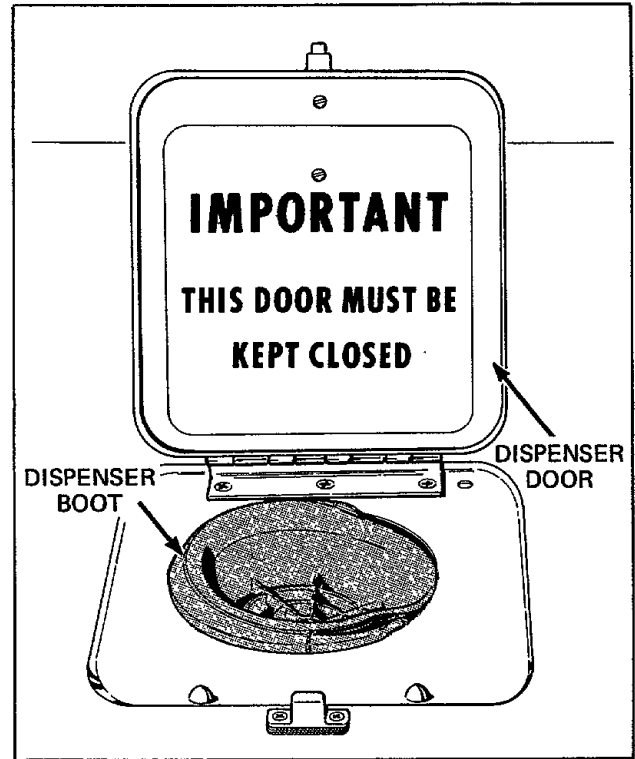

Figure 8
- c. Open dispenser door, compress dispenser boot and push boot down through cabinet top, *Figure 8*.